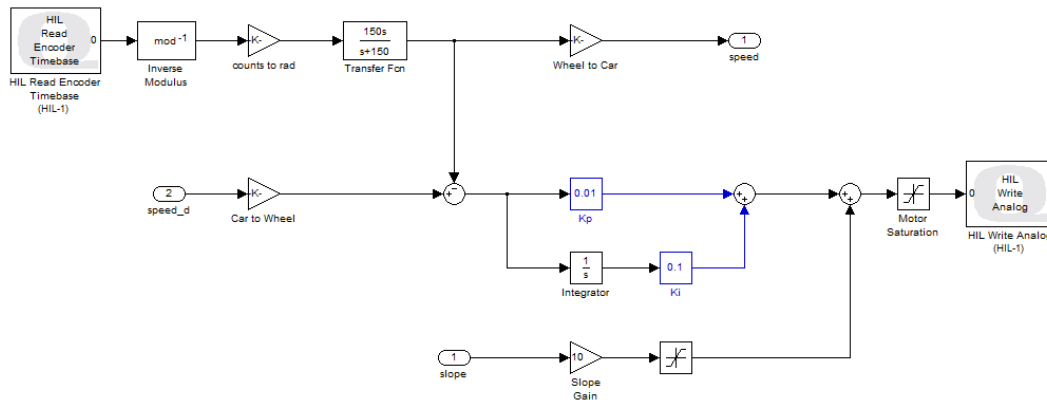

Figure 2.1: QDS speed control subsystem
2. Open the Engine Dynamics subsystem shown in Figure 2.1.